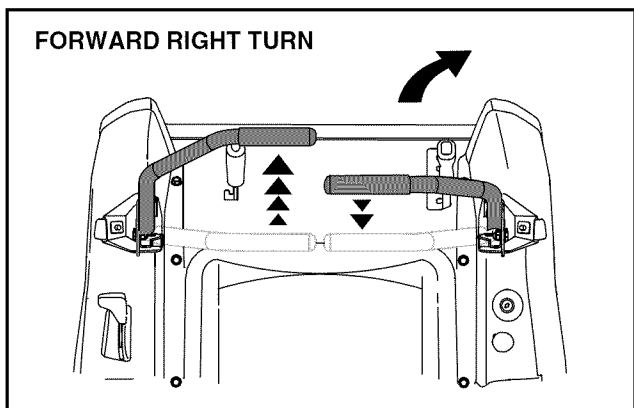

Figure 15
- To turn to the right, move the right drive control lever rearward of the left lever. See Figure 15.